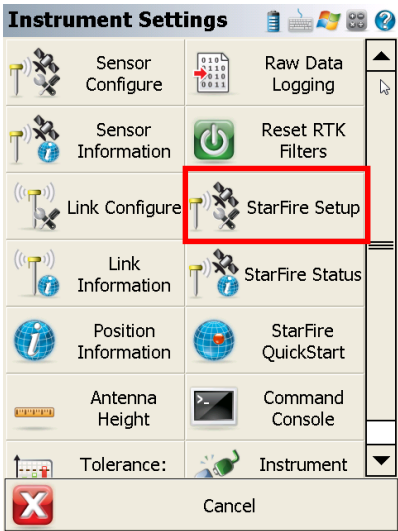

Figure 46: Instrument Settings/StarFire Setup
12. On the **Instrument Settings** dialog (refer to Figure 46), select **StarFire Setup**.